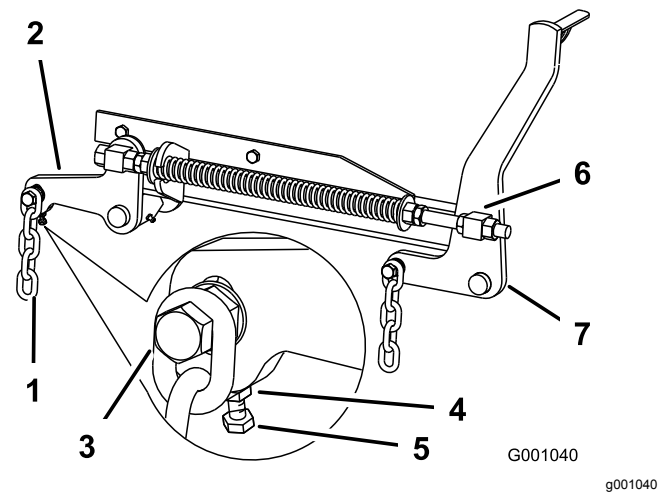

Figure 93
8. If the measurements at positions **B** or **C** are not correct, loosen the bolt attaching the rear chain to the rear-support arm (Figure 93).
5. Adjust the adjustment bolt to get a measurement of 80 to 83 mm (3-1/8 to 3-1/4 inches); refer to Figure 93.
7. Loosen the front swivel jam nuts, at the front of the right and left swivels, approximately 13 mm (1/2 inch) (Figure 93).
8. Adjust the lift nuts on both the left and the right side of the machine to achieve 6 to 10 mm (1/4 to 3/8 inch) lower in front at **A** than in the rear at **B** (Figure 93).